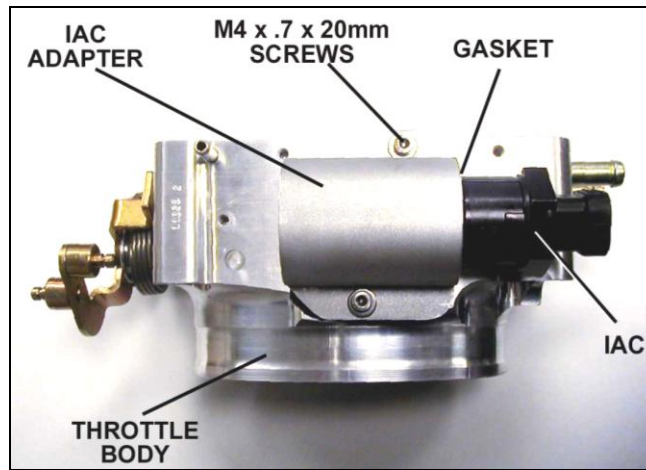

Figure 4
11. The Idle Air Control motor (IAC) will be installed on the throttle body next. Use the M4 x .7 x 20mm SS Allen head screws and washers provided. Use the provided gasket. Tighten the adapter securely. See Figure 4.